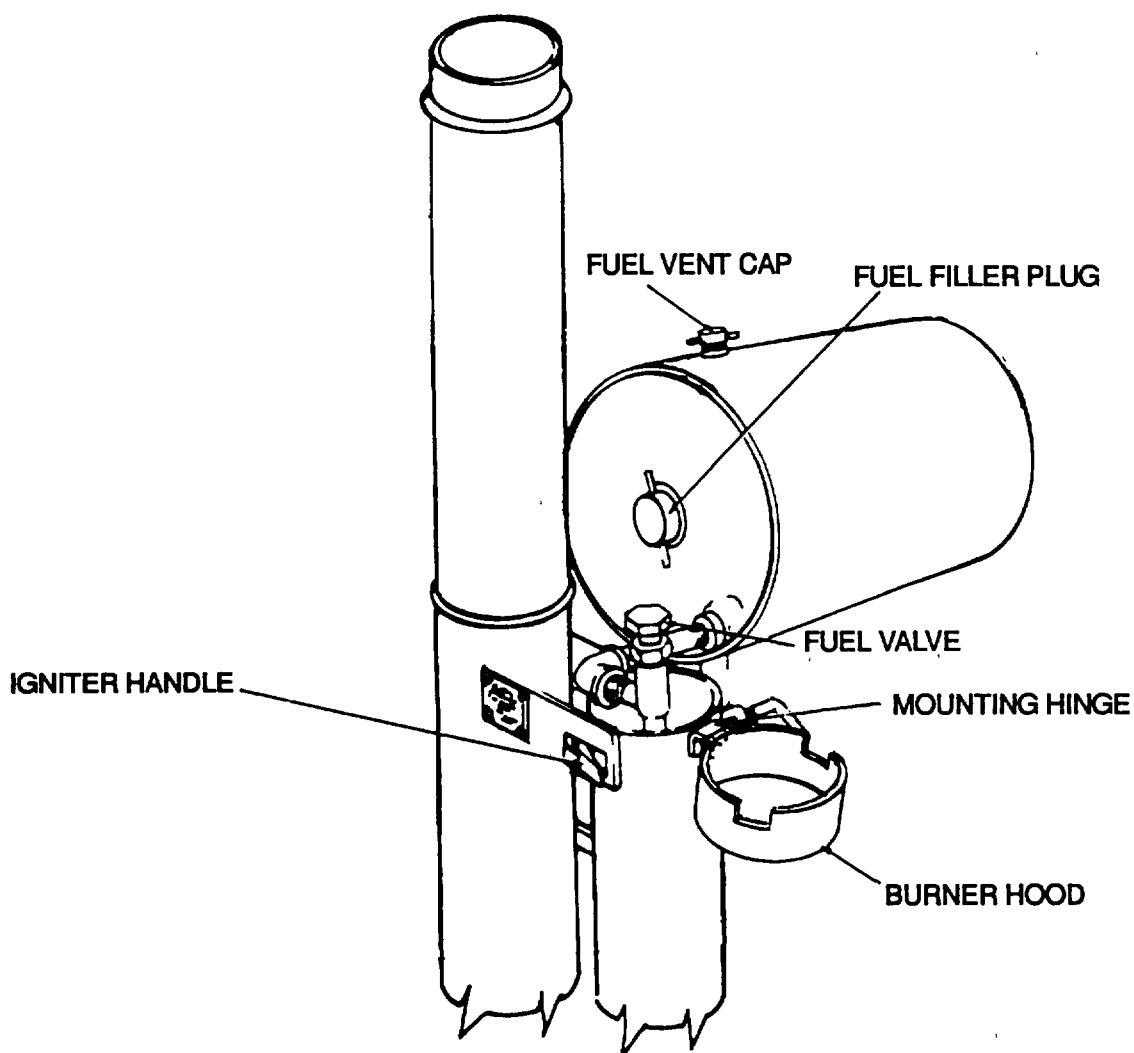

Figure 2-1. Immersion Heater Controls
a. **Fuel Valve With Handle.** The fuel valve is located at the end of the fuel tank, to the right side of and below the filler plug. It is attached to the fuel tank with a pipe elbow and nipple. When the fuel tank is mounted on the heater, the fuel valve extends down into the burner compartment. It is used to control flow of fuel from tank to burner. Turn valve handle counterclockwise to begin, or increase, flow of fuel and turn handle clockwise to decrease, or stop, flow of fuel (Figure 2-1).
b. **Igniter Handle.** The igniter handle is located on the front side of the heater. The handle extends through the opening in the steel plate that joins the burner compartment with the flue compartment. The handle has a spring which makes it a spring return type of control. The igniter cup is mounted on the opposite end of the handle shaft. The cup is normally positioned in the flue compartment with the handle on the right hand side of the opening in the steel plate. The cup, when ignited, is used to preheat the flue compartment and to ignite the burner fuel for operation. Push handle toward the left hand side of opening to position cup in burner compartment for fuel flow. Release hand pressure on handle and spring action will return handle to right hand side position, and position cup back into fuel compartment (Figure 2-1).
c. **Fuel Vent Cap.** The fuel vent cap is located at the top of the fuel tank. The vent cap is used to let air into the tank when the fuel valve is opened, thus permitting fuel flow (Figure 2-1).